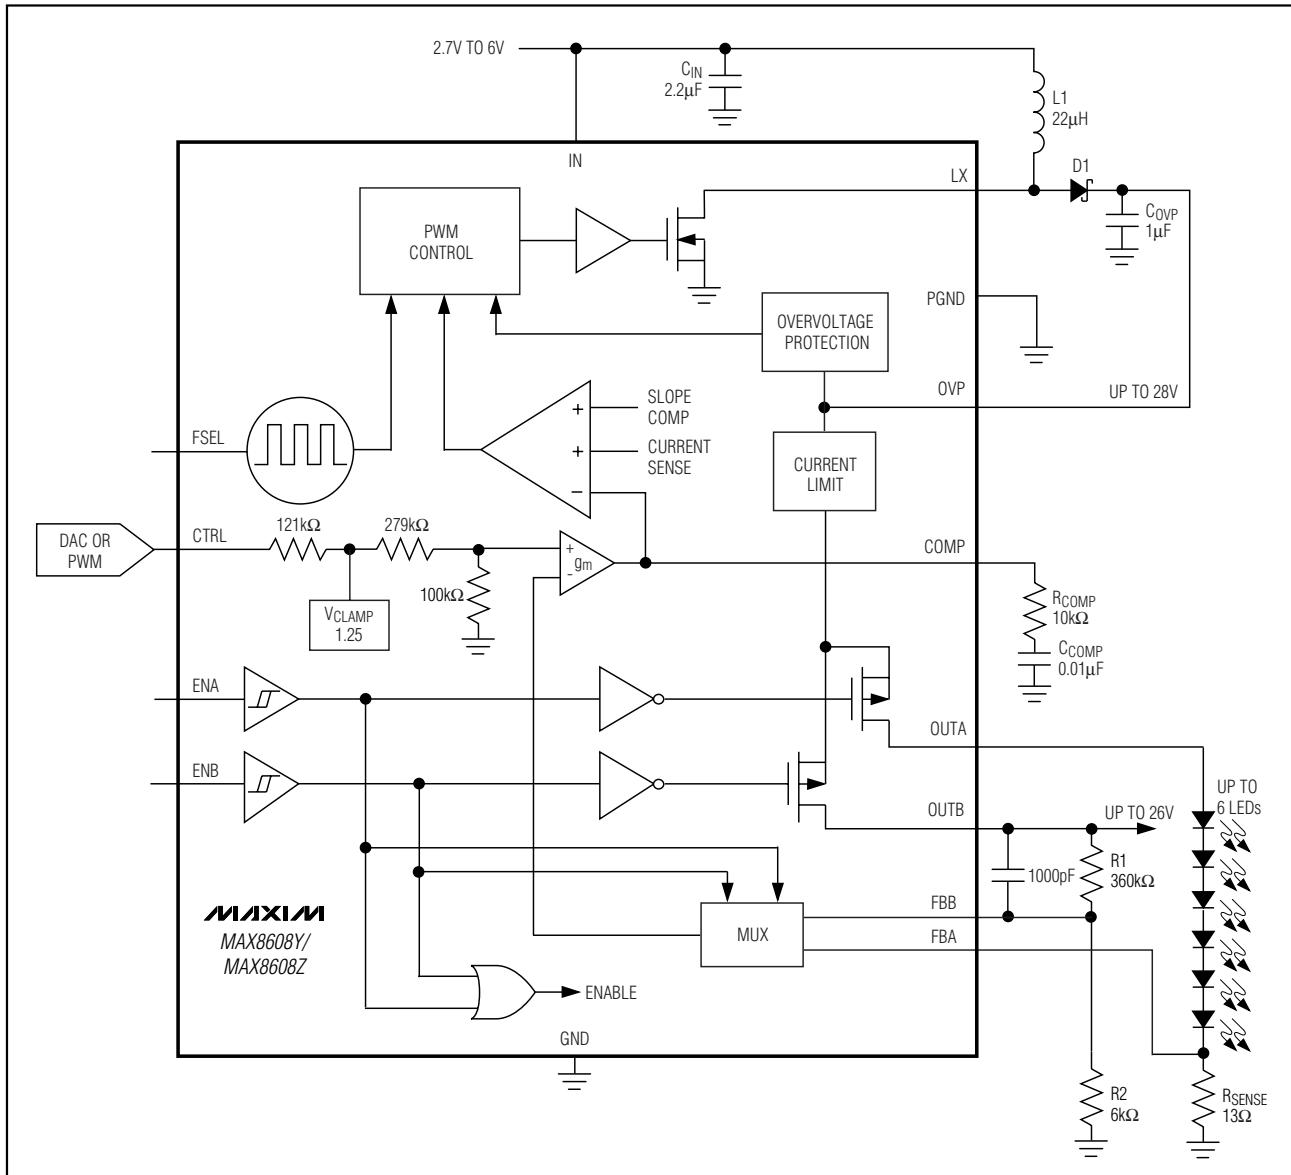

Figure 1. Functional Diagram and Typical Applications Circuit
**Note 2:**  $V_{D1}$  is the diode forward-voltage drop of diode D1 in Figure 1.
(Circuit of Figure 1,  $V_{IN} = 3.6V$ ,  $I_{LED} = 20mA$ ,  $L_1 = 22\mu H$ ,  $C_{OVP} = 1\mu F$ ,  $C_{COMP} = 0.01\mu F$ ,  $R_{SENSE} = 13\Omega$ ,  $V_{CTRL} = 1.5V$ , 4 LEDs,  $T_A = +25^\circ C$ , unless otherwise noted.)
The VCTRL voltage range for adjusting output voltage is 0 to 1.65V. Applying VCTRL voltage above 1.65V does not increase the output voltage any further. To set the maximum output voltage, choose a value for R2 (Figure 1) between 1k $\Omega$  and 10k $\Omega$  and then calculate R1 when VCTRL is at its maximum as follows: